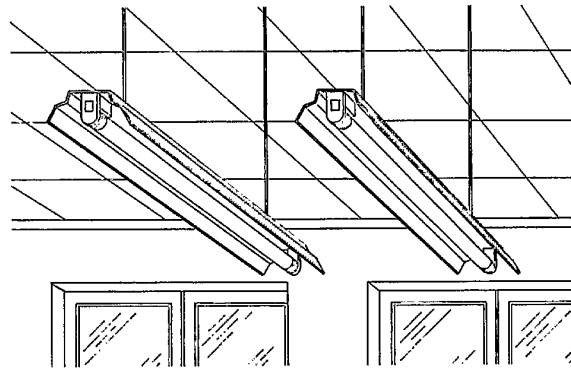

Figure 17: Fluorescent tubes with closed-top reflectors have to be cleaned every month
- **Dust or other deposits on lamps.** The need for regular cleaning of lamps is often overlooked because dust collects relatively slowly and evenly. Dust which may be absorbing a large proportion of the emitted light is often difficult to detect. Table 2 shows that the type of fitting makes a big difference. If you decide to use a closed-top reflector or fitting (figure 17), clean it every month.